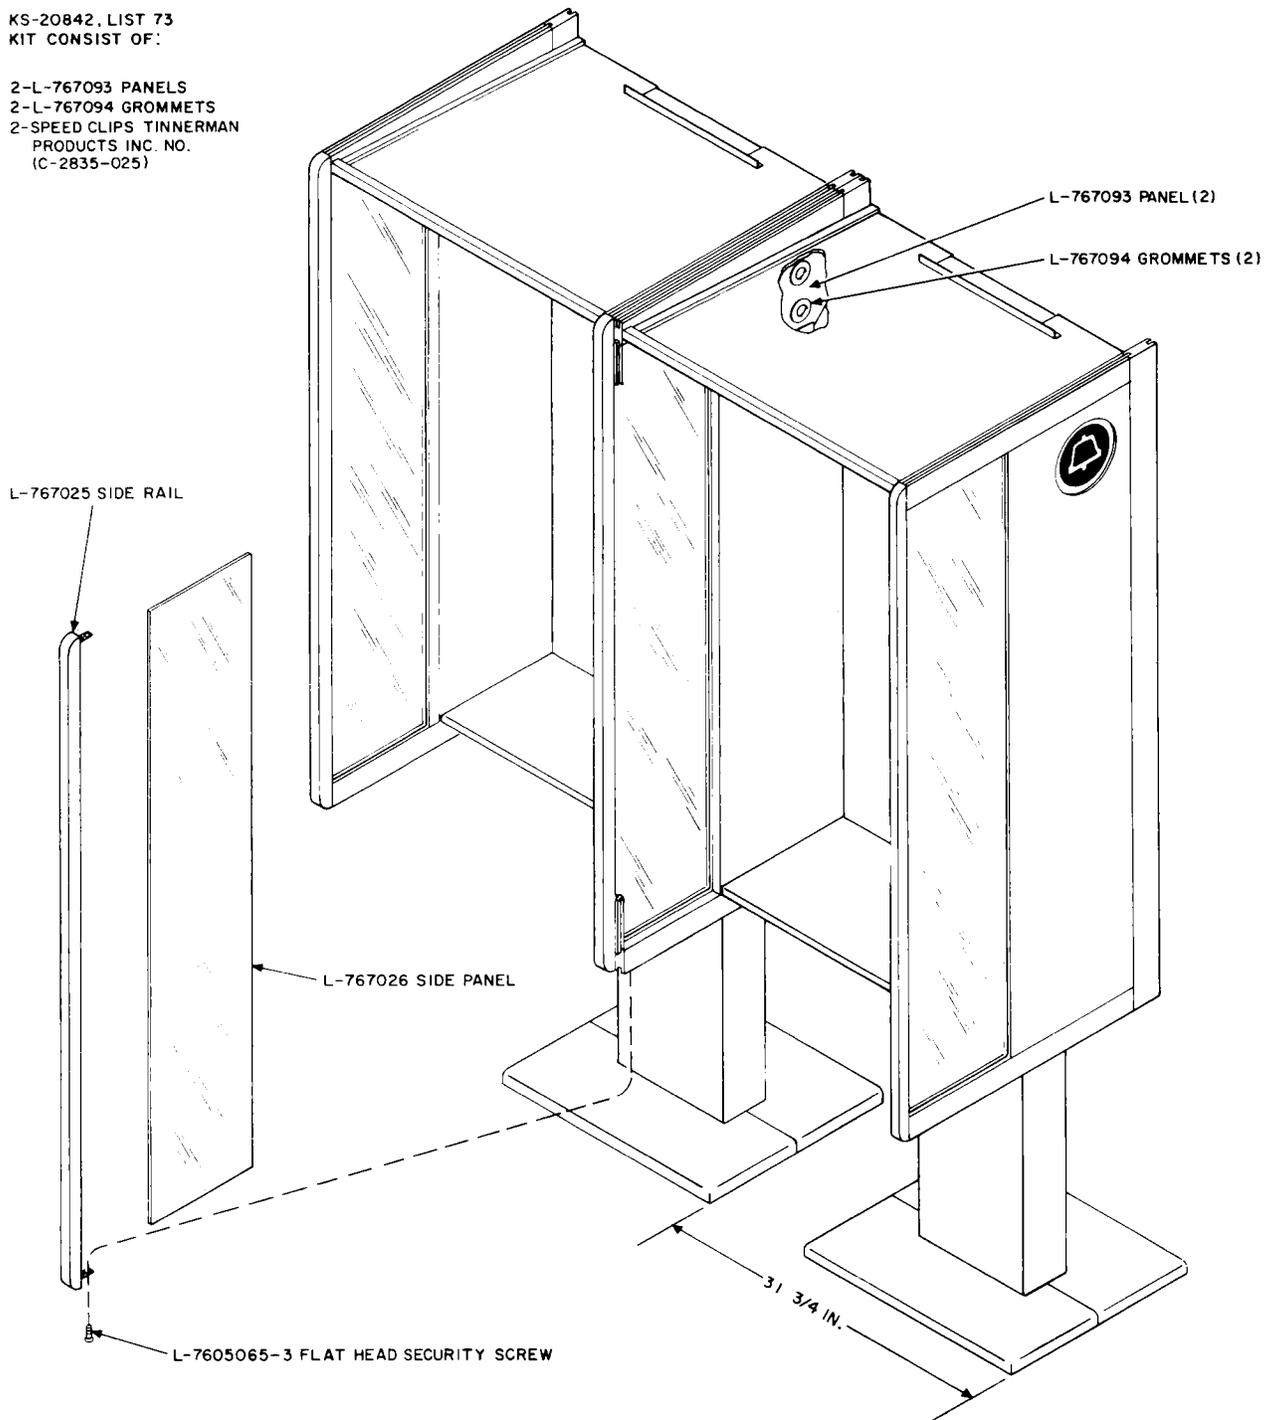

Fig. 31—List 33 Housings, Installed Side-by-Side
3.30 List 33 Housing Assemblies Side-By-Side (Fig. 31).
(e) From the left wing of the second station, remove the L-767025-1 side rail and L-767026-1 side panel (Fig. 31) along with L-767028-1 glazing strip.